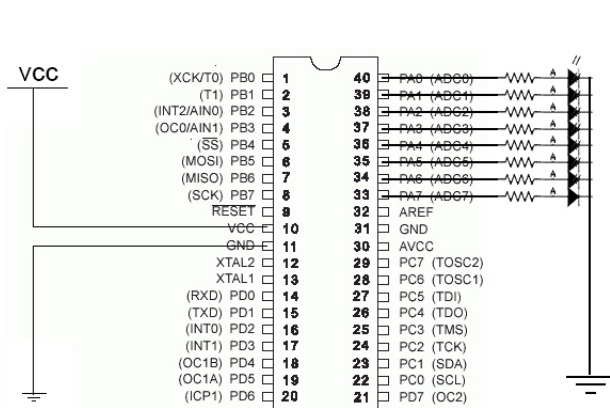
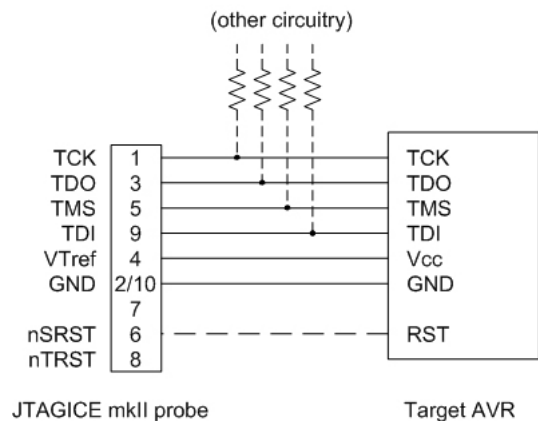

Figure 1: This is how we connect LEDs to the ATmega16
Figure 2: Figure showing connections from ATmega16 to the JTAG pins
The ATmega16 chip was already mounted on a safety bracket. We had to place the bracket with the micro-controller on to the breadboard. Then we connected the micro-processor to the JTAG MKII programmer and the LEDs as shown in the *Figure 1* and *Figure 2*.
- Connect the micro-controller pins to the appropriate JTAG pins as shown in *Figure 1*.